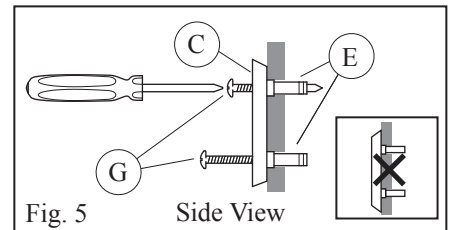

Fig. 5
6. Place the mounting bracket (C) over the drywall anchors (E). Insert mounting screws (G) through the bracket and anchors, and then tighten firmly with Philips head screwdriver. (Fig. 5)